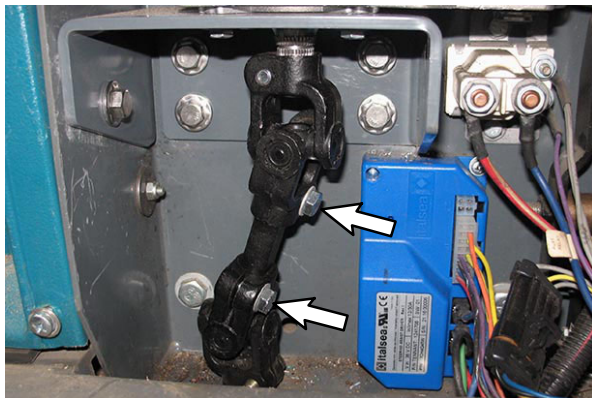

FIG. 44
50. Reinstall the two previously removed M8 hex screws into the lower power steering shaft (13). Torque the SEMS M8 hex screws to 22 Nm (16 ft lbs). (Fig. 44)